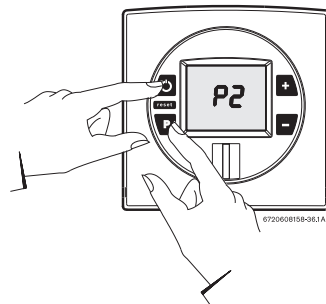

Fig. 59
- ▶ While holding the Program (P) button in, press the ON/OFF button to turn ON the heater (see Fig. 59). As soon as '188' flashes on the display, release the Program button. The display should now read P2. Press '−' button until "P1" appears on display.